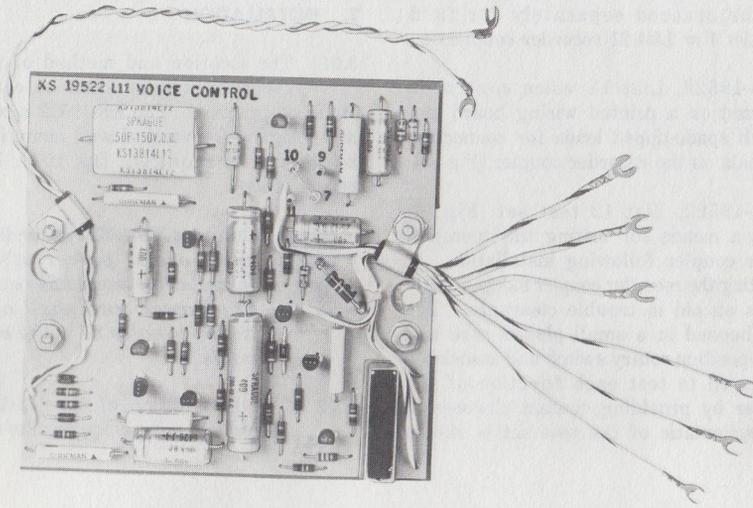

Fig. 5—KS-19522, List 11 Voice Control, Unmounted
(Fig. 5) may be ordered separately for field installation in List 1 or List 21 recorder couplers. ♦
**2.10** The KS-19522, List 11 voice control is constructed on a printed wiring board and is equipped with spade-tipped leads for connecting to screw terminals on the recorder coupler (Fig. 5).